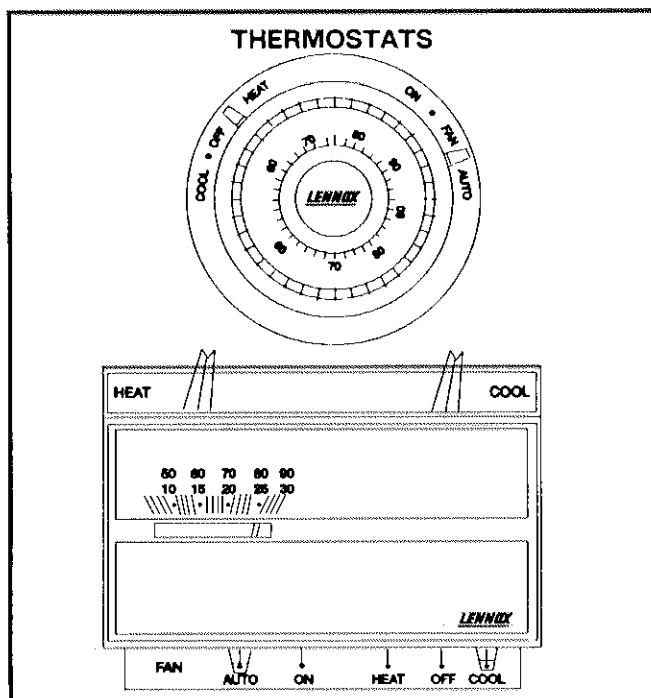

FIGURE 4
- 1- Set thermostat to lowest setting. See figure 4.
- 1- Turn off electrical power to furnace. See figure 4.